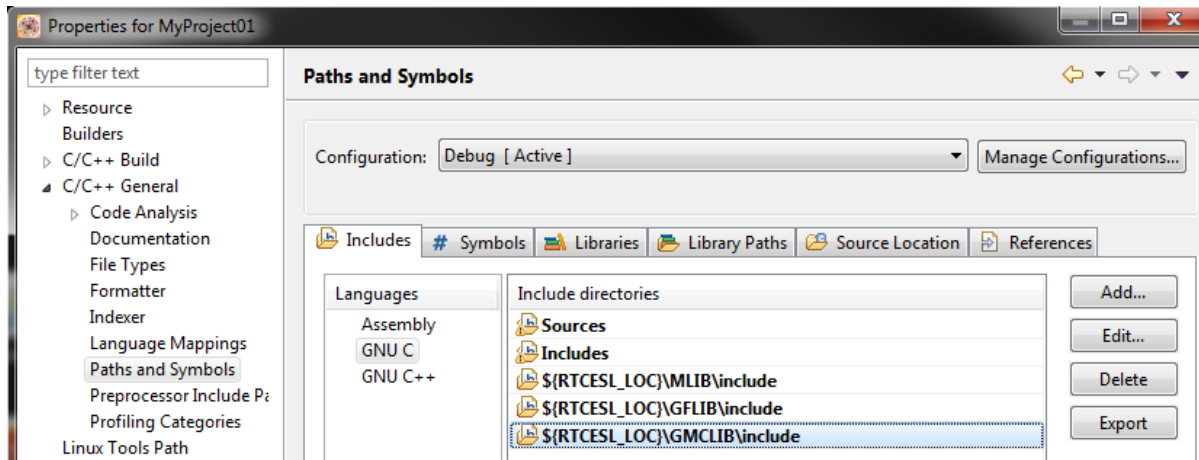

Figure 1-24. Compiler setting
19. In the right-hand dialog, select the Includes tab, and click GNU C in the Languages list. See Figure 1-24.
26. Click OK, and you will see the paths added in the list. See Figure 1-24. Click OK.